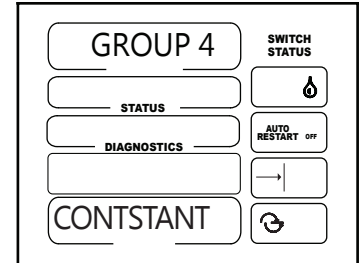

Figure 25-1
2. GROUP 4 will be shown in the display screen. See figure 25-1.